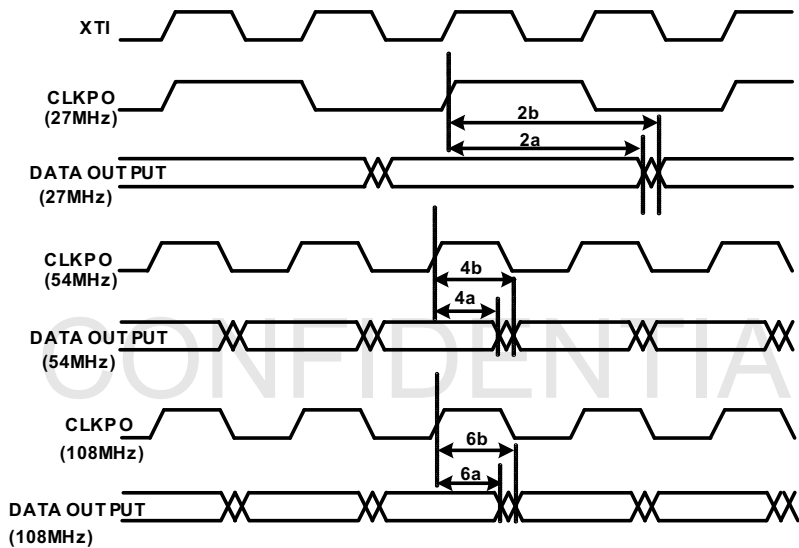

FIGURE 9. ISL79988 VIDEO DATA/SYNC TIMING
8. CLKO timing is related to CLKO_DEL register value. Figure 9 illustrates an example where the CLKO_DEL is set to 0 hex and CLKO_POL is set to 0.